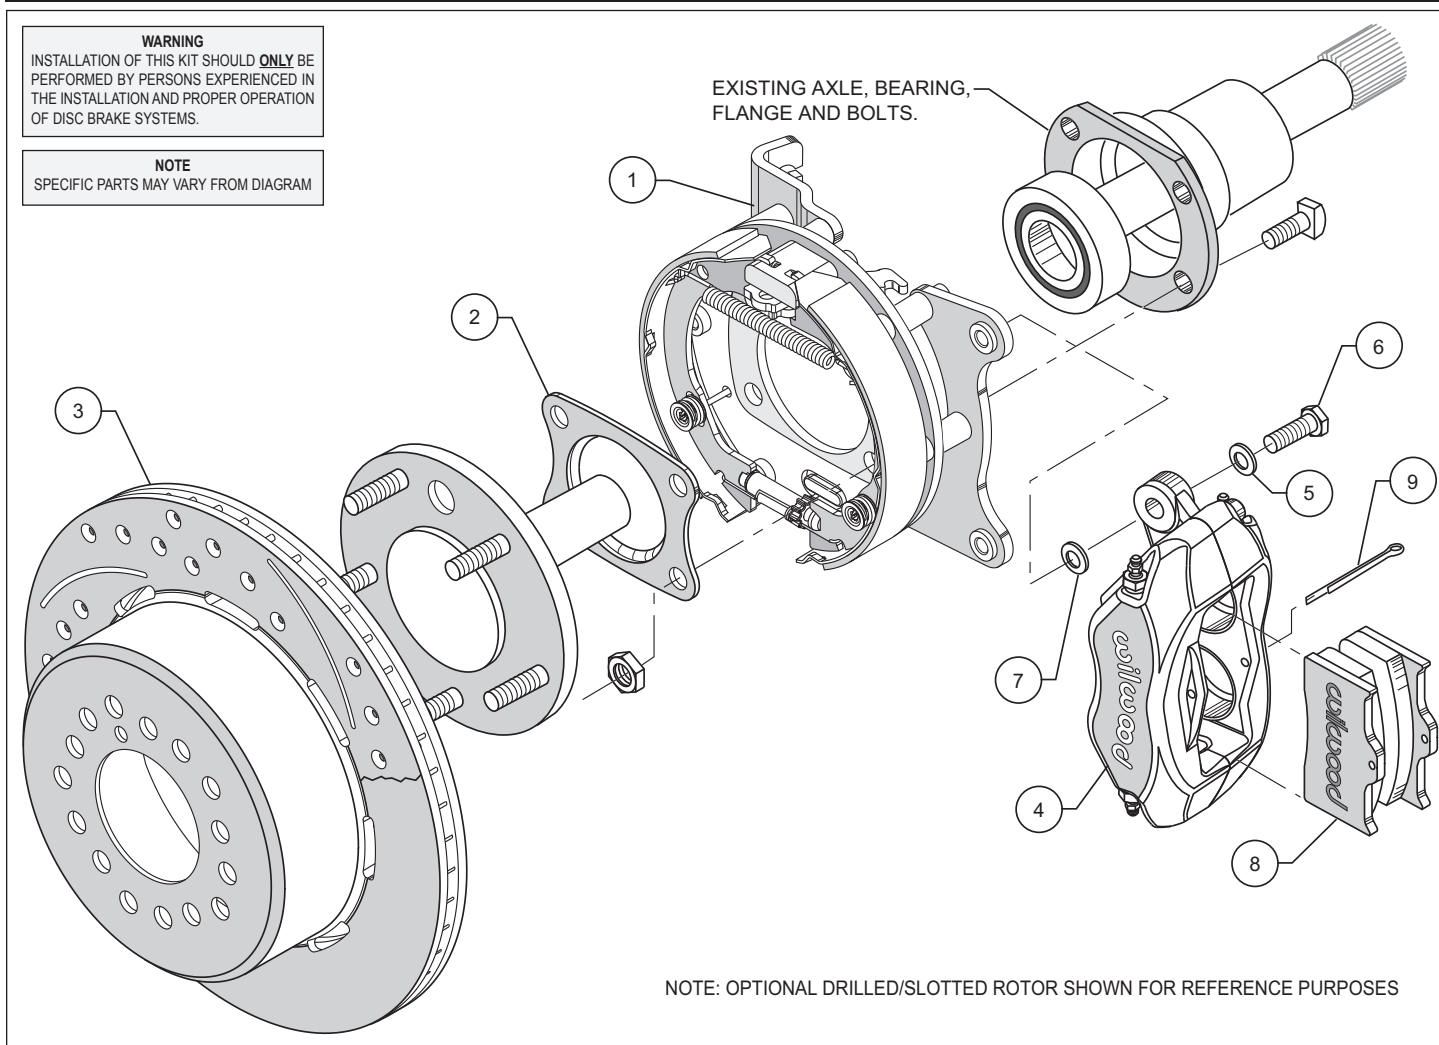

Figure 1. Typical Installation Configuration
- A. **Full Circle Retainers** require the utilization of a qualified machine shop to press off the axle bearing and OEM retainer. Then have machine shop install new retainer (2), supplied with bracket kit with lip facing toward bearing, reference Figures 1, 4 and 5 (we suggest that you install a new bearing at this time, not supplied with kit).
- B. **“U” Retainers** require the removal of the OEM retainer by cutting or grinding a notch in the retainer to facilitate removal. Once OEM retainer is removed, install new retainer (2) supplied with bracket kit with the “U” opening facing up and the lip facing toward bearing, reference Figures 1, 4 and 5.